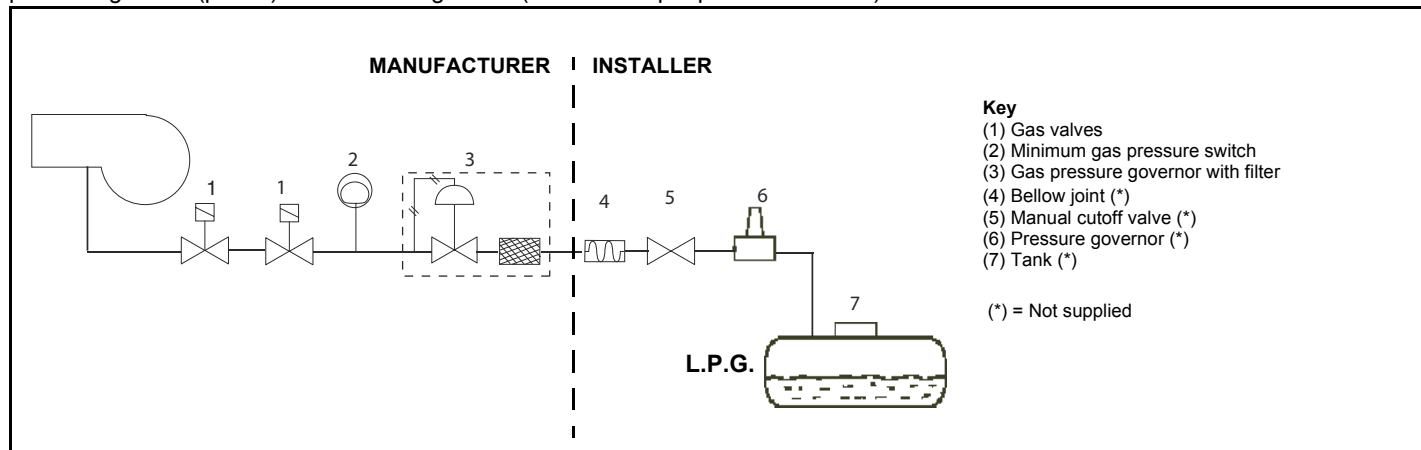

Fig. 2
**ATTENTION:** once the gas train is mounted according to the diagram on Fig. 2, the gas proving test must be performed, according to the procedure set by the laws in force.